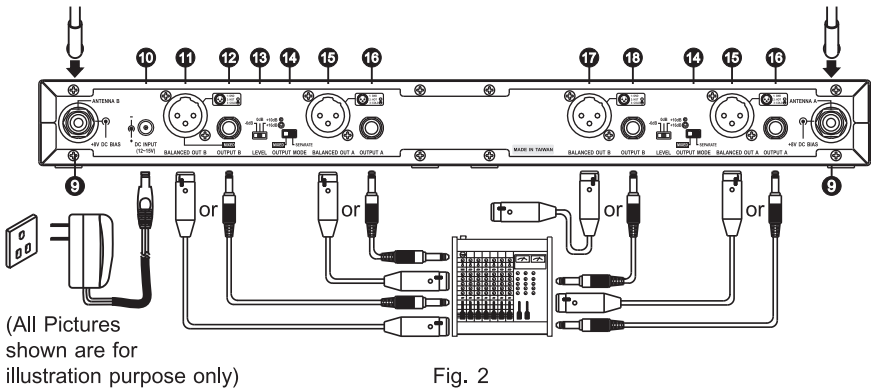

Fig. 2
1. Antenna Connection: Connect an antenna to each of the antenna connectors ❹ on the rear panel. Fig. 2. Antenna connectors provide an 8-volt DC bias to work with MIPRO antenna boosters. If the antenna cable is longer than 10 meters, it is advisable to install an antenna booster to ensure optimal reception.
2. Power Connection: Connect the power supply to the receiver DC input ❿ and plug it into an AC power source. Fig. 2.
- (A) When connecting the audio output to the MIC IN jack of the mixer or amplifier, switch output level switch ⓫ to 0 dB. When connecting to LINE IN jack, set output level switch to +16 dB when using balanced XLR connector or set output level switch to +10 dB when using unbalanced (6.3 Ø) connector. When connecting to an amplifier with non-standard gain, set output level switch to -6 dB when there is distortion at the maximum output level.
- (B) Output for electric guitar/bass: Use a 6.3 Ø phone cable. One end to receiver's unbalanced output jack and the other end to guitar/bass amplifier's input jack. Switch the output level to the "+10 dB" position.
- (C) Use an XLR cable to connect the receiver audio output jacks ⑪⑮⑰ to a mixer or an amplifier's MIC IN jack.
- (D) Use a PHONE cable to connect the unbalanced phone jacks ⑫⑯⑱ to a mixer or an amplifier's LINE IN jack.
- (E) To mix the multiple channel outputs, connect to the mixed output jacks ⑩ or ⑬ and switch the output switch ⑭ to the MIX position.